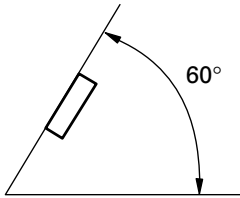

Fig. 11
- If installation angle exceeds 60° from horizontal, the unit might not give its optimum performance. (Fig. 11)